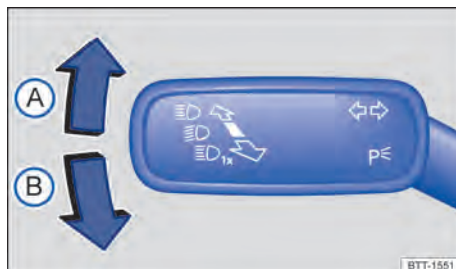

Fig. 81 On the left-hand side of the steering column: direction indicator and high beam lever.
2. Move the lever from the centre position to the desired position → Fig. 81.